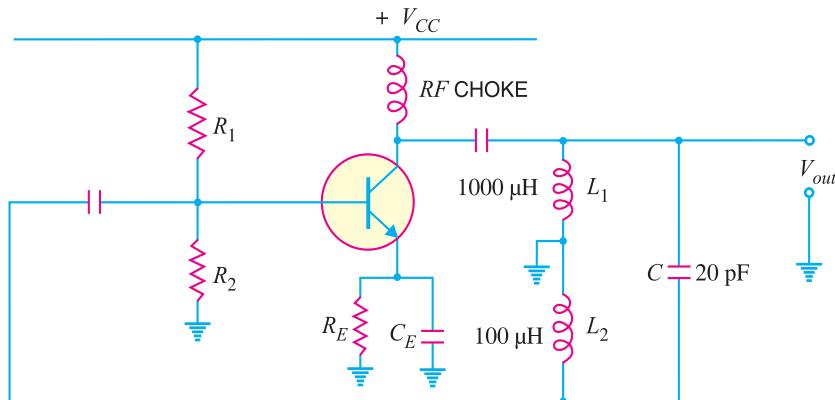

Fig. 14.15
**Example 14.5.** Calculate the (i) operating frequency and (ii) feedback fraction for Hartley oscillator shown in Fig. 14.15. The mutual inductance between the coils,  $M = 20 \mu\text{H}$ .